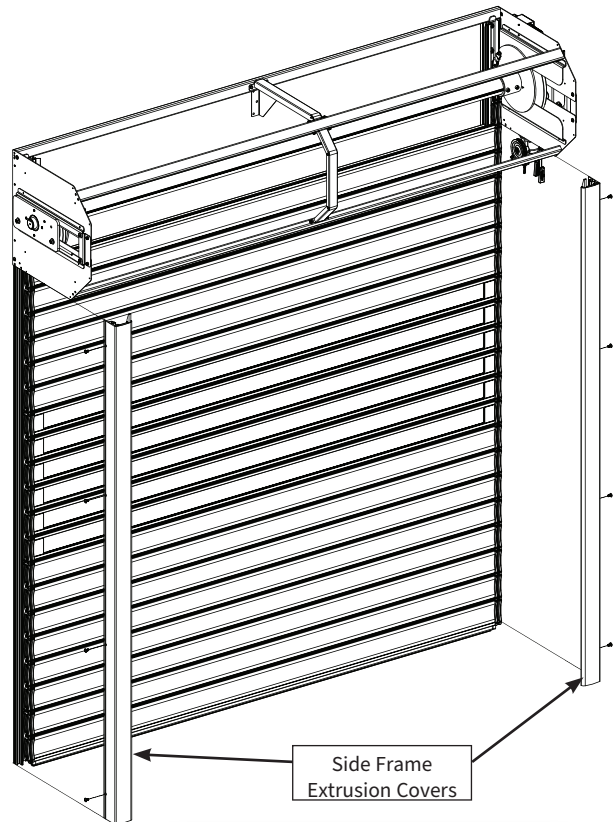

Figure 1: Remove Side Frame Covers
- 3 Remove mounting screws from sides of face frame covers. Pull off face frame covers and set covers & screws aside (Figure 1).